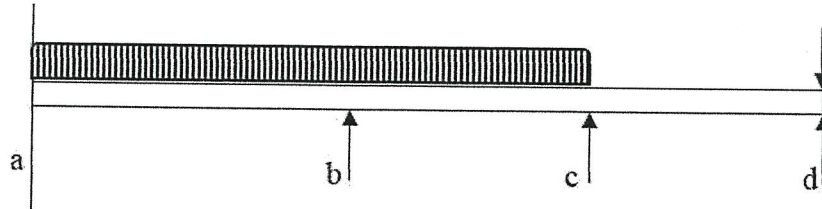

Figure Q1(c)
- (c) Sketch the suitable location of reinforcement bar on **Figure Q1(c)**. Use any relevant assumption if needed. (7 marks)